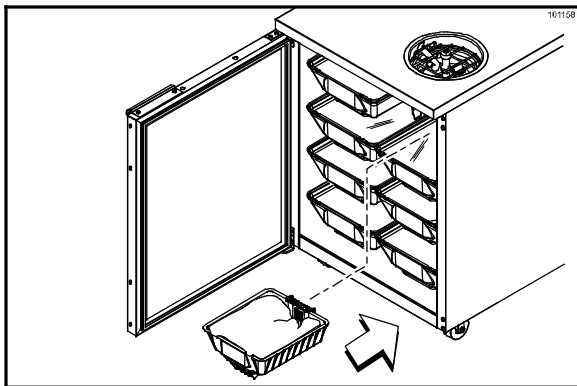

Figure 112
62. Place each product bin in its proper position. The product locations are labeled inside the refrigerated cabinet. Make sure the bag spout slides over the product tube. (See Figure 112.)